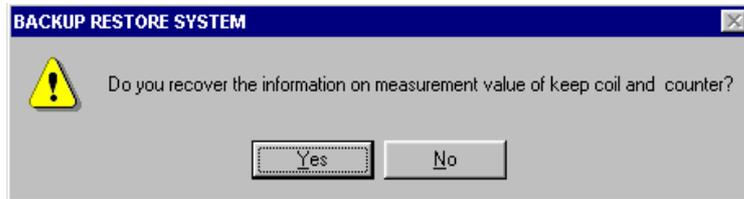
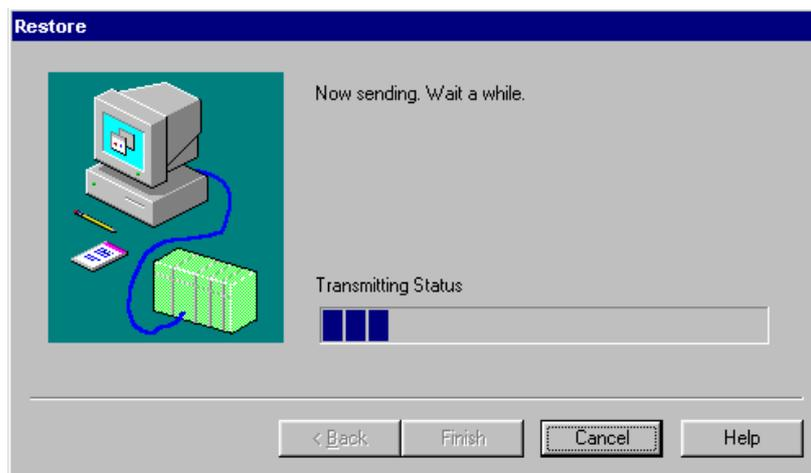

Figure 3-13 [BACKUP RESTORE SYSTEM] Window
Figure 3-14 [Restore] Window (Restore Progress Status)
- (7) When the or button is clicked on the [BACKUP RESTORE SYSTEM] window (keep coil and counter value information recovery confirmation) (Figure 3-13), this window disappears and the [Restore] window (restore progress status) (Figure 3-14) is displayed.